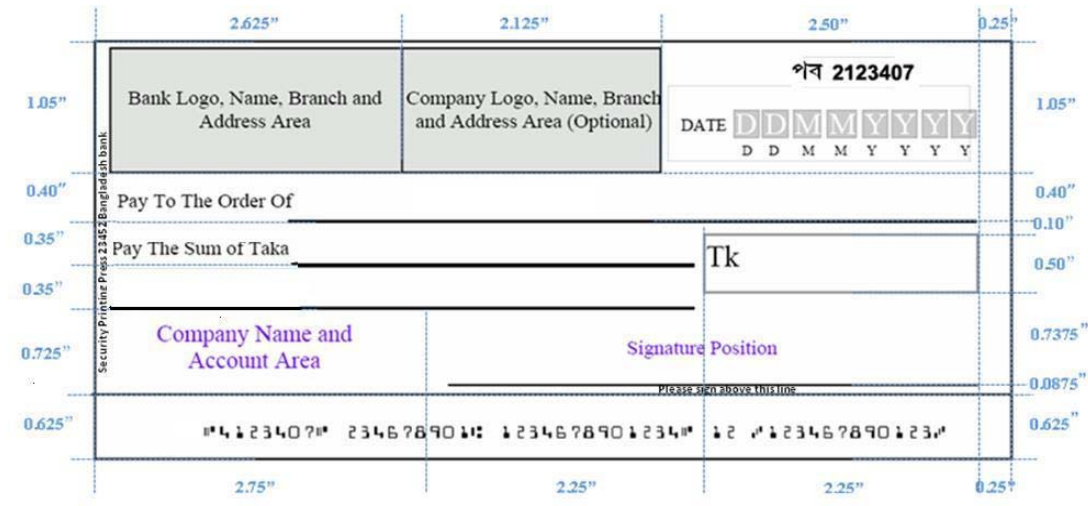

Figure 2 – Detailed Area Measurements
The title of the account is to be printed in the lower left corner of the cheque, directly above the MICR codeline, as shown in Figure 2. This area provides the customer information which must at a minimum identify the Customer Name(s) and Account Number authorized to withdraw funds from the account. Account Number will remain 13 digits. Most system assigned Account Numbers include a product code and a branch code in addition to the actual Account Number. Actual account number does not exceed 10 digits. As for example, in Flexcube, the total account number field is 16 digits long, but it consists of Branch Code(4), Product Code(3), Account Number(8) and Check Digit(1). If the banks want to maintain their existing account number per system, they simply need to write a table lookup to link the account number field (upto 13 digits) to the account number assigned by the system (which is more than 13 digits). This is a common practice. For banks having account number less than 13 digits, they have to put leading zeros and make it 13 digits long. As for example, banks with 11 digit Account number can convert to 13 digits by putting two leading zeros.